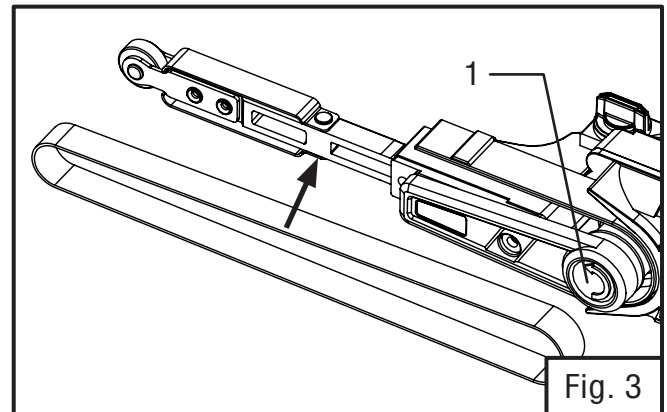

Fig. 3
2. Insert the sanding belt on the rollers. Check that the arrow on the inside of the sanding belt points in the same direction as the arrow indicated on the tool (Fig. 3 - 1).